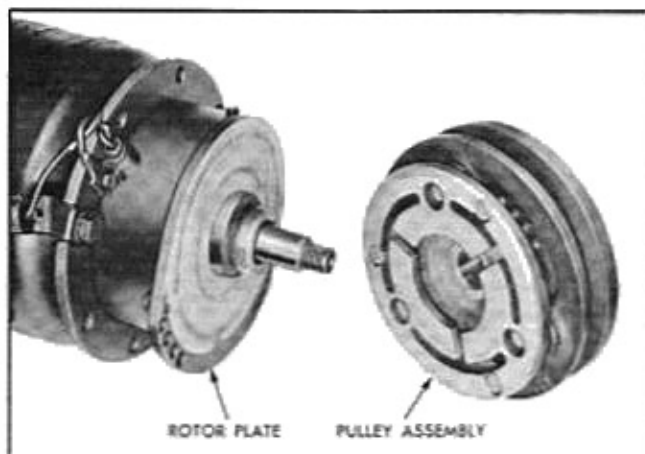

Fig. 7-46 Pulley Removed from Compressor Shaft
5. Remove pulley from shaft, using a puller such as J-8433 Compressor Pulley Remover (Fig. 7-46).